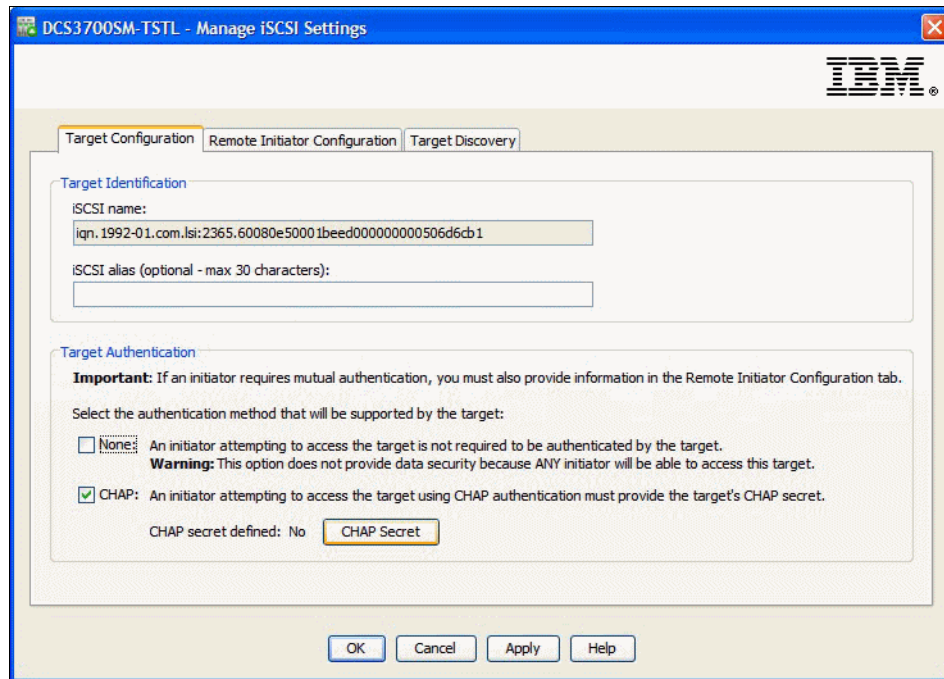
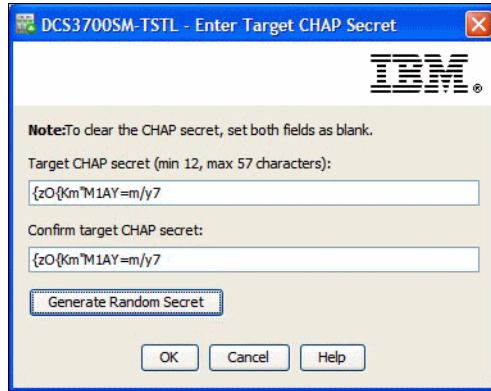
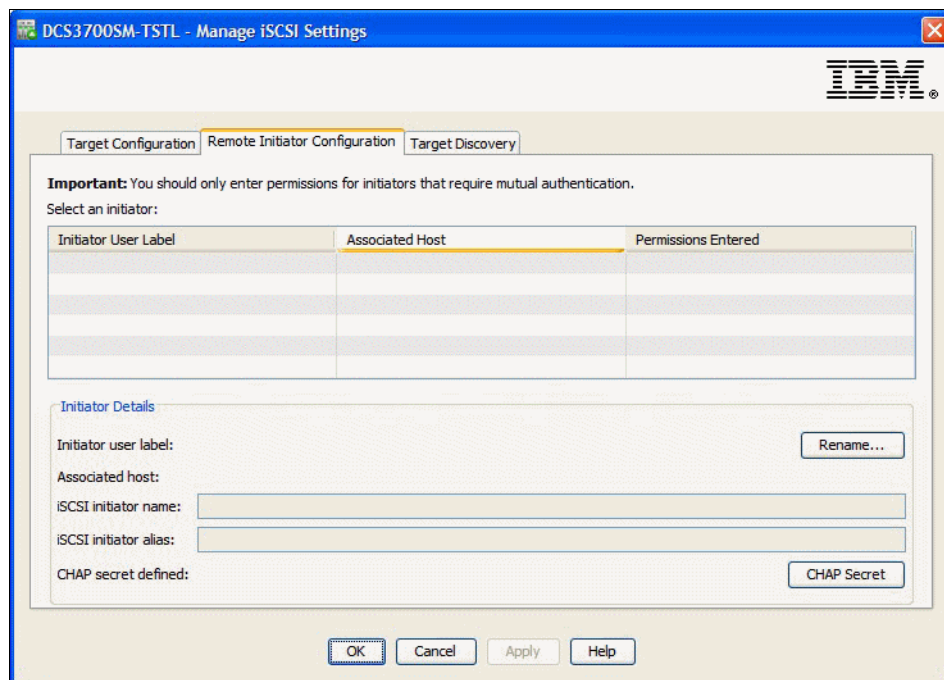

Figure 12-3 Manage iSCSI Settings - Target Authentication
Figure 12-4 Target CHAP secret
Figure 12-5 Remote initiator or mutual authentication configuration
1. Click **Storage Subsystem** → **iSCSI** → **Manage Settings** → **Target Configuration** and you see two options in the Target Authentication (Figure 12-3) pane.
2. If CHAP is enabled, define the CHAP target secret by clicking **CHAP Secret**, as shown in Figure 12-3. The Enter Target CHAP Secret window that is shown in Figure 12-4 on page 369 opens.
1. In the Manage iSCSI Settings window (Figure 12-3 on page 368), click the **Remote Initiator Configuration** tab. The Remote Initiator Configuration tab is shown in Figure 12-5.